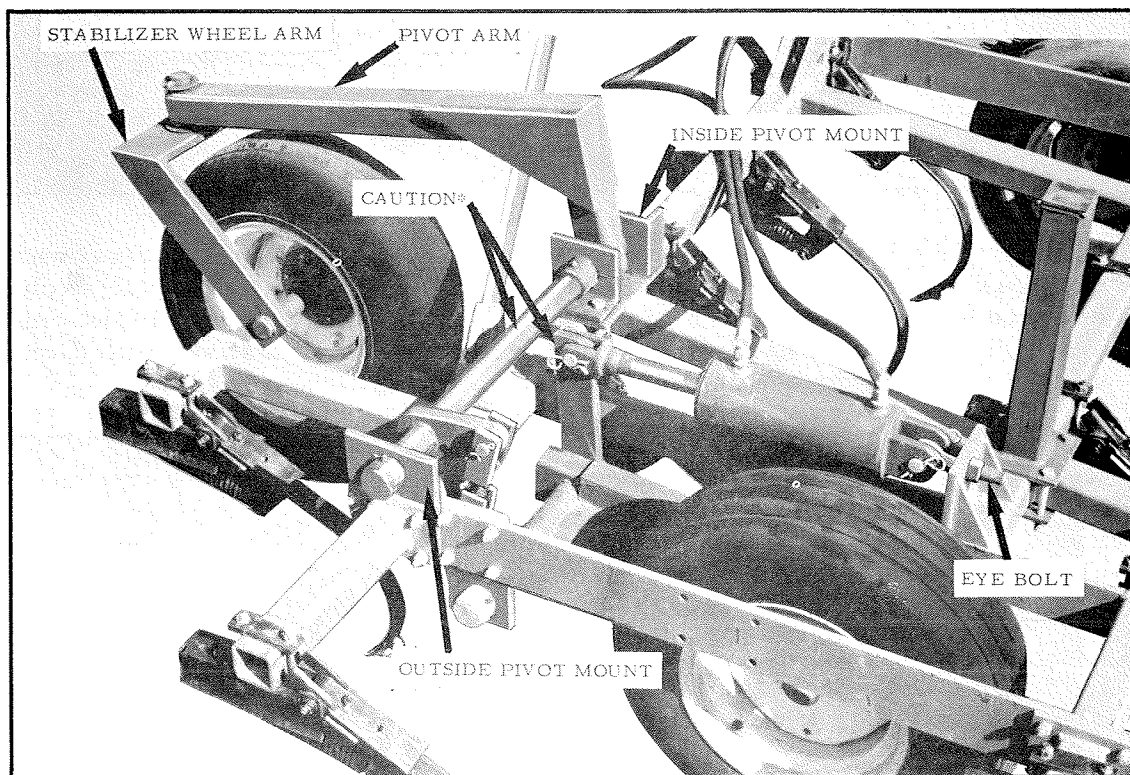

Figure 11
10. Install cylinders for depth control system. See hydraulic circuit diagram. Base ends of wing cylinders are joined to forged steel eye bolts as shown in Figure 11. Eye bolts must be positioned so that cylinder pins are parallel to prevent damage when cylinder is actuated.